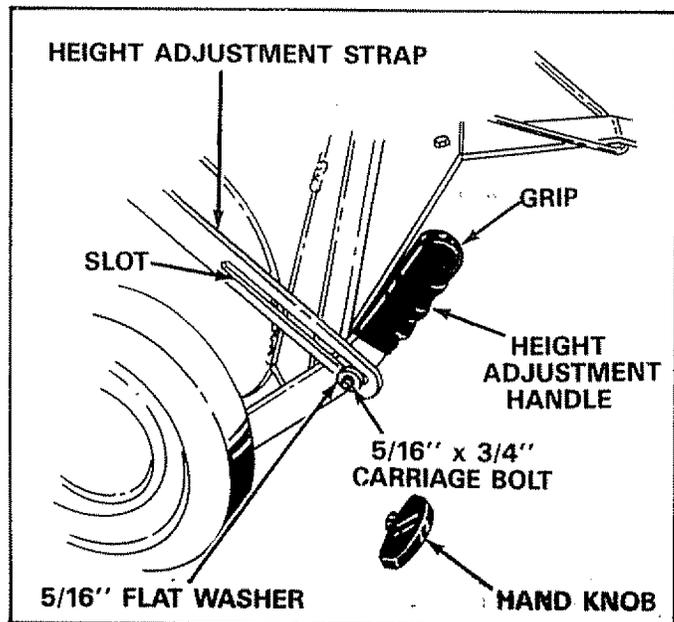

FIGURE 9
10. Assemble other end of height adjustment strap to height adjustment handle. See figure 9. Place slot on strap in line with square hole in height adjustment handle. Secure strap with 5/16" x 3/4" carriage bolt, 5/16" flat washer and hand knob. See figure 9. **NOTE: Lightly coat slot with grease for ease of adjustment.**
11. Assemble the grip, with finger knobs as shown, to the height adjustment handle. See figure 9.